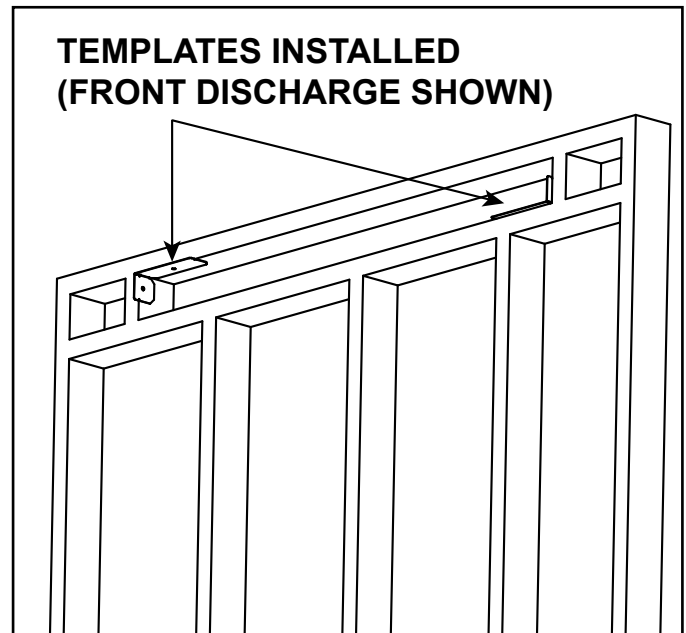
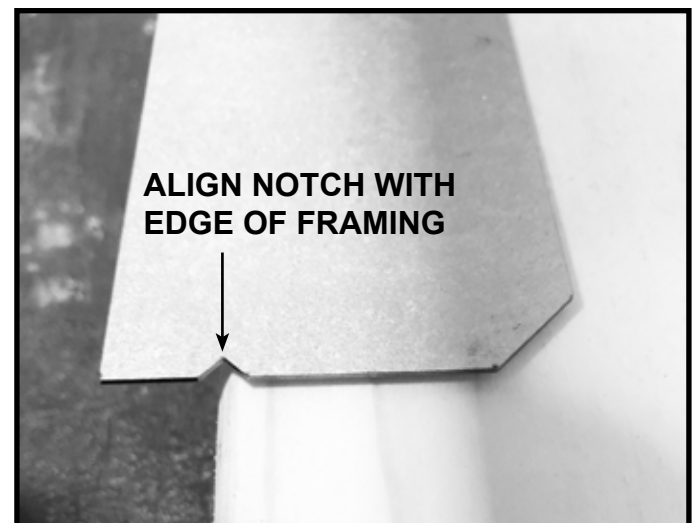

Figure 17 Template Installation
Figure 18 Template Notch Alignment
2. Place one template into the top left corner of the discharge opening as shown in Figure 17. Align the outside edge of the framing with the notch in the template as shown in Figure 18. Attach to framing using wood screws.